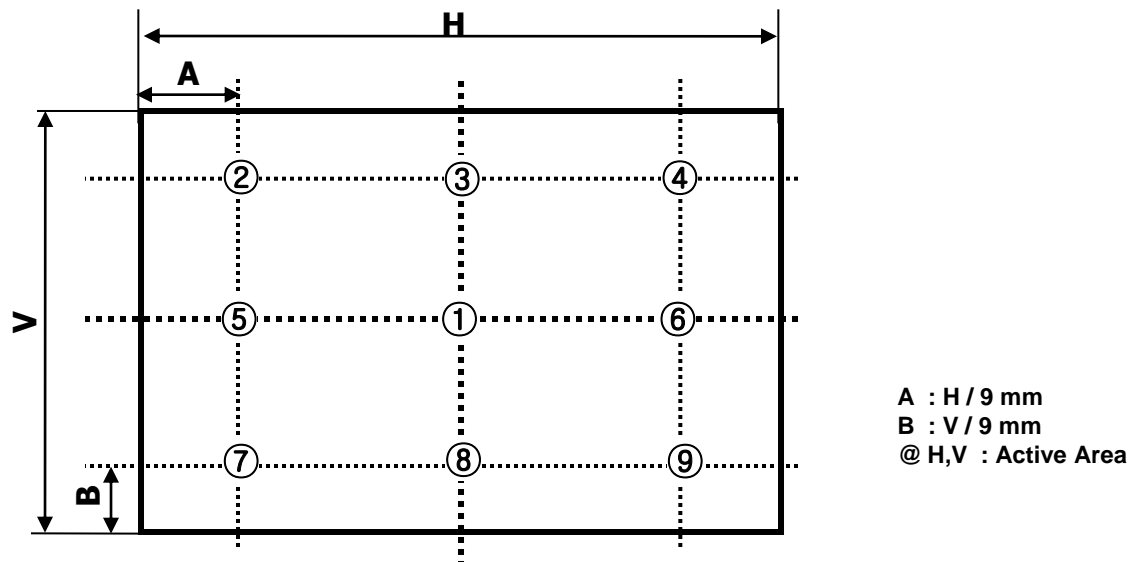

FIG. 2 9 Points for Luminance Measure
2. Surface luminance are determined after the unit has been 'ON' and 1 Hour after lighting the backlight in a dark environment at $25 \pm 2^\circ\text{C}$. Surface luminance is the luminance value at center 1-point across the LCD surface 50cm from the surface with all pixels displaying white. For more information see the FIG. 2.
For more information, see the FIG. 2